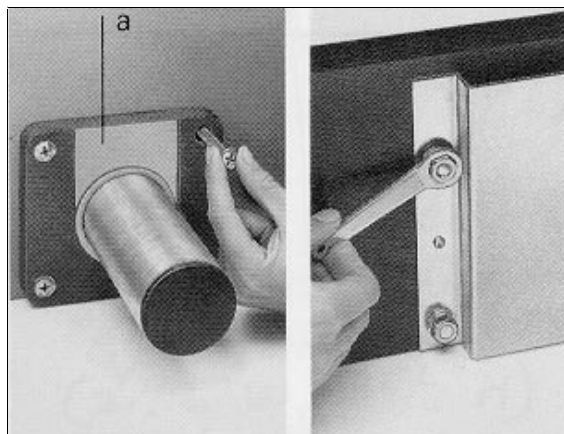

Figure 2-1. XLR Column Base
1. Position the column post as shown in figure 2-1, with the milled section (a) pointing toward the center of the baseboard.